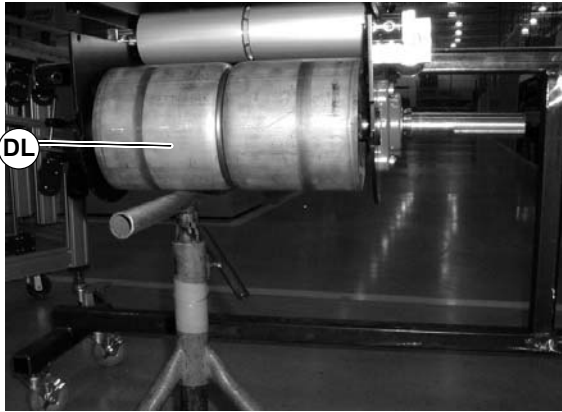

Figure 99
8. Temporarily support the drive pulley (DL of Figure 99).